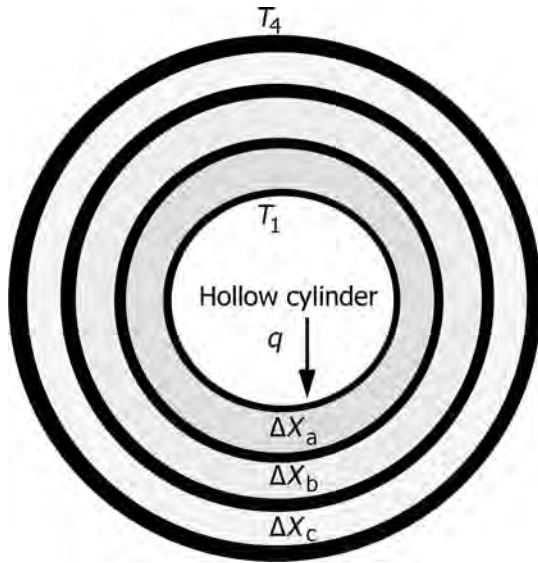

FIGURE 8.10 Multilayer hollow cylinder.
- **Multilayer hollow cylinder:** One-dimensional heat conduction (Figure 8.10).